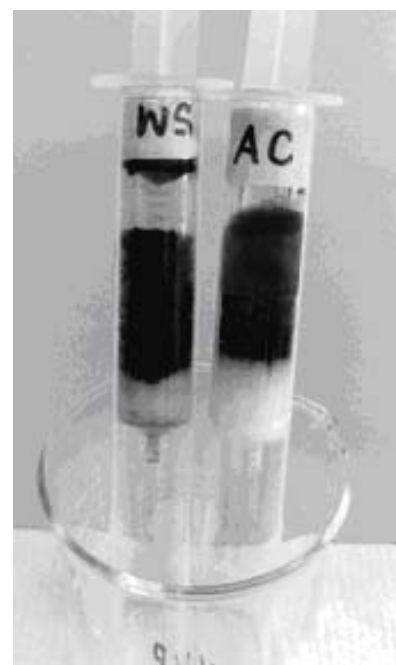

Figure 3. Prepared syringes ready for Day 2
- Store syringe upright in test tube and set in beaker. (See Figure 3)